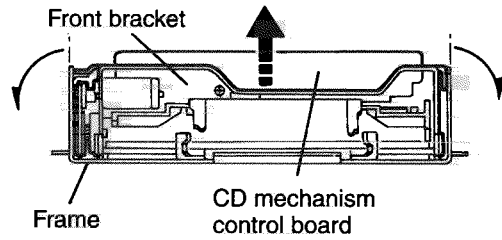

Fig.5
**CAUTION:**Remove the front bracket from the frame while expanding both sides of the frame as shown in Fig.5